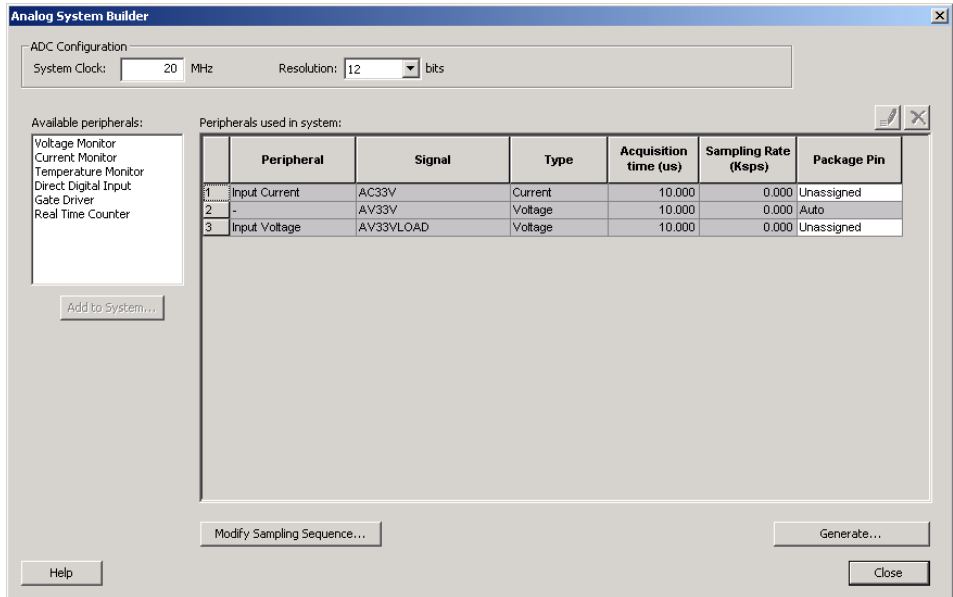

Figure 1-10. Analog System with Current/Voltage Monitors Added
- Click OK. The ASB displays your new voltage monitor as shown in Figure 1-10.